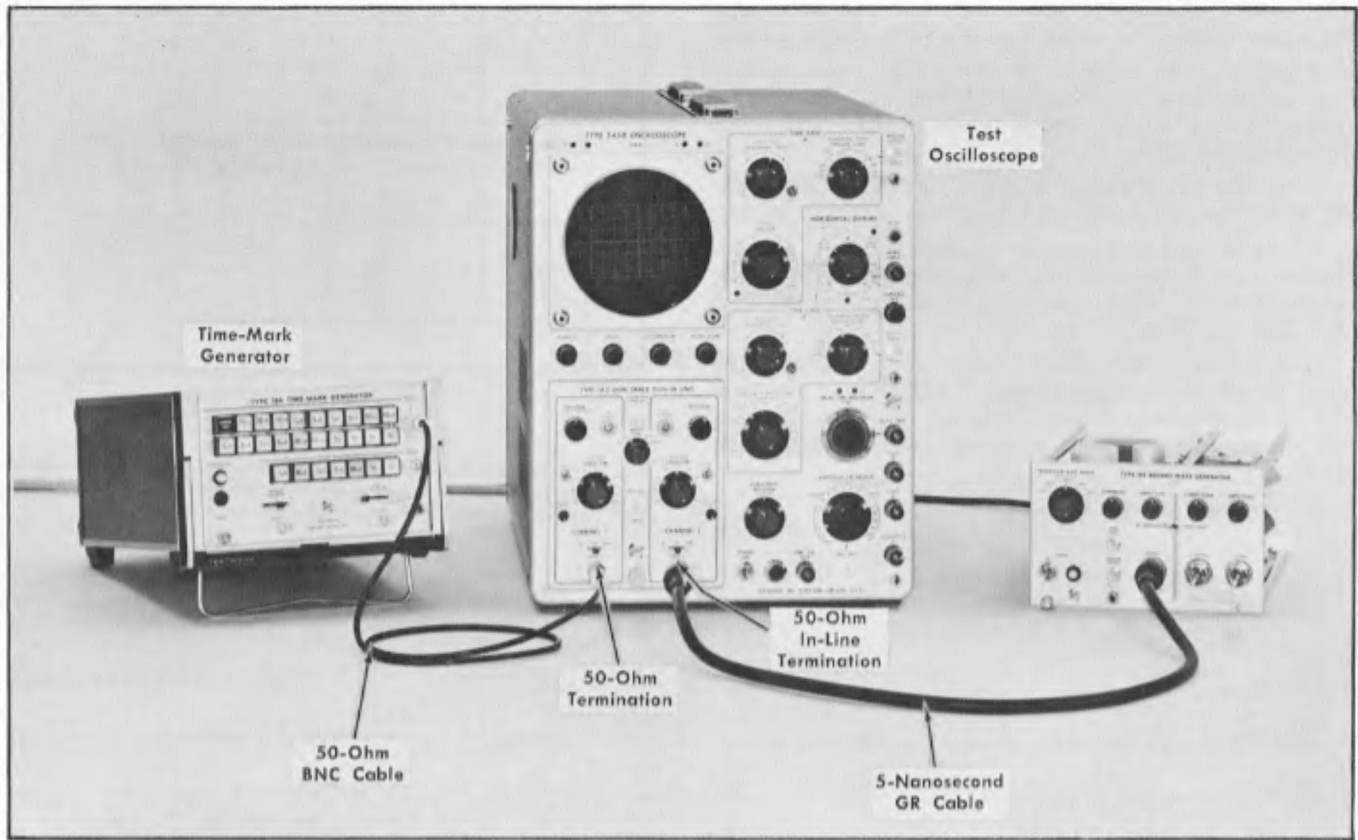

Fig. 6-8. Initial test equipment setup for steps 7 — 12.
- a. Test equipment setup is shown in Fig. 6-8.